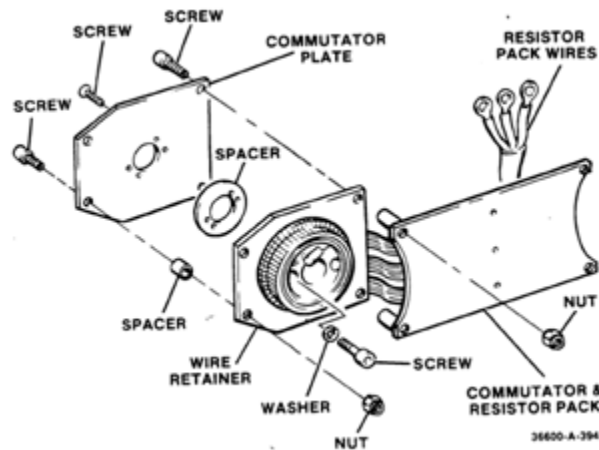

Figure 5-44. Resistor Pack
14. Secure commutator plate, and wire retainer to resistor pack with screws and nuts (Figure 5-44).